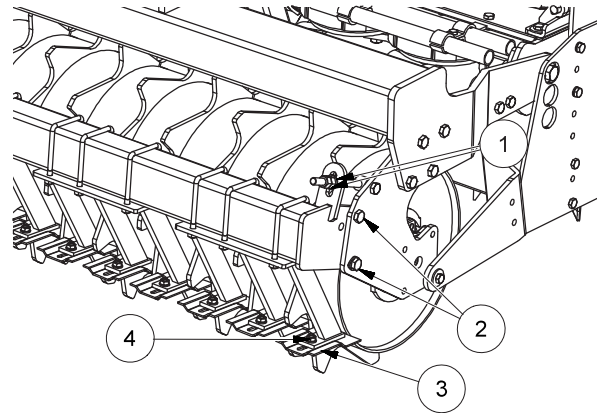

FIG. 26
- Loosen nut (2, “Fig. 26”).
- Loosen nuts (1) until the scraper is at the desired distance from the roller.